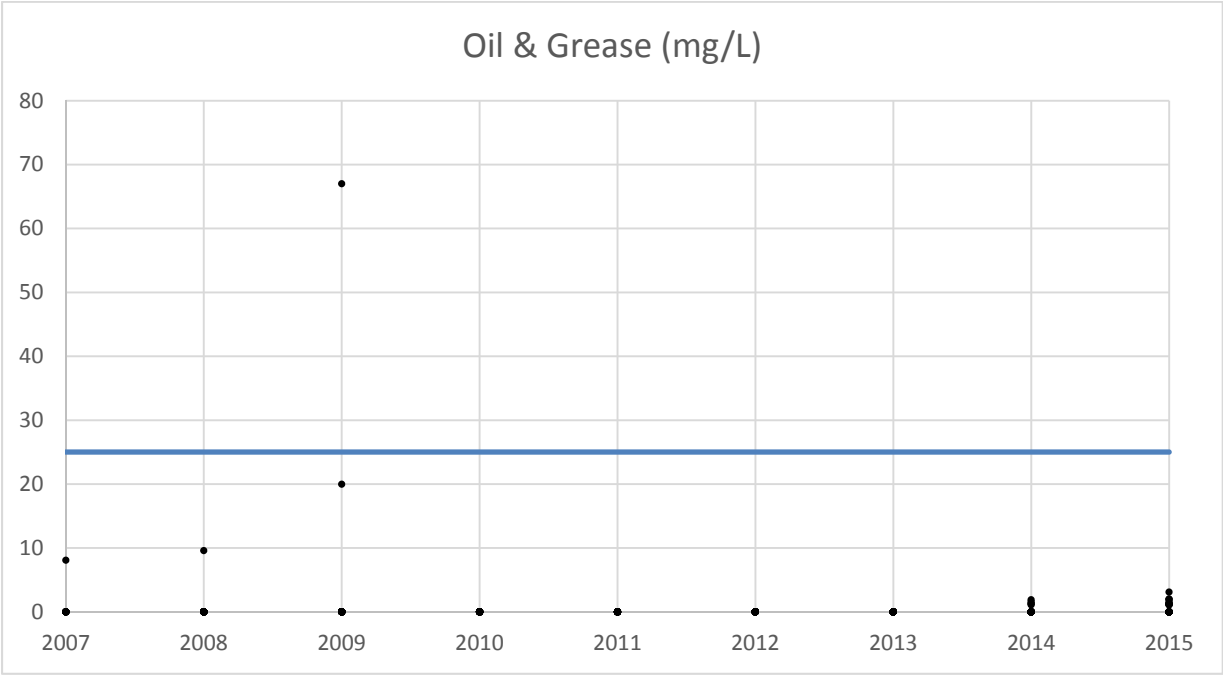

Figure 4. Historical Analytical Results for Oil & Grease
■ Clear, no sediment, no oil sheen, no odor. Bailer sample appears like sample in Figure 4(a) below.	Discharge to storm drain without a filter sock
● Slightly cloudy or discolored, light sediment or minimal oil sheen, no odor. Bailer sample appears like samples in Figure 4(b) below.	Discharge to storm drain using a filter sock
■ Very cloudy, excessive sediment, rust, odor and/or oil sheen. Bailer sample appears like samples Figure 4(c).	Vacuum truck pumps vault and hauls to disposal facility